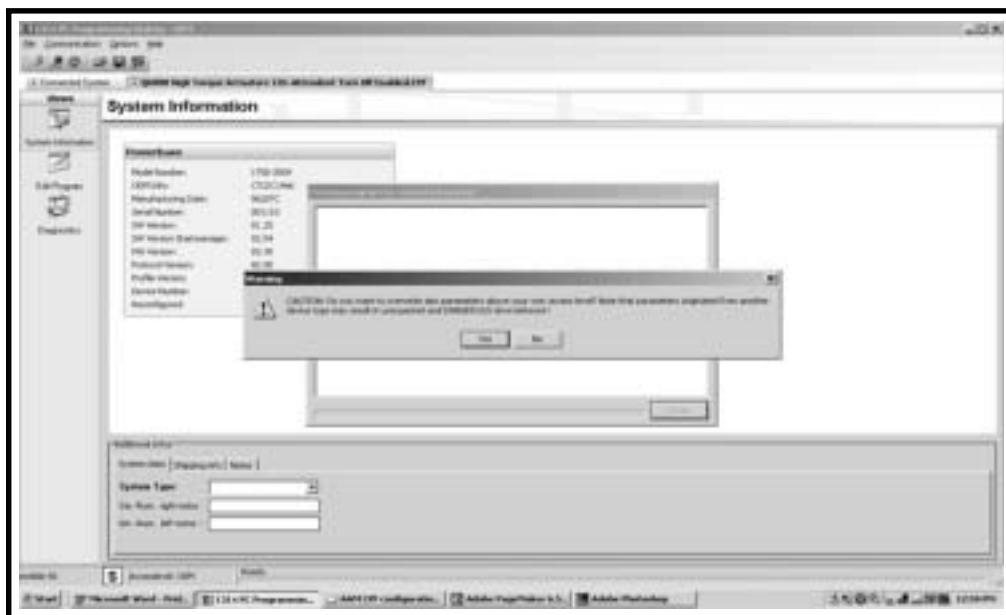

Figure 53. Over-writing Parameters Caution Window
23. Click OK to receive a caution window regarding over-writing parameters, then click Yes to begin the download, which should last approximately one minute. See figure 53.